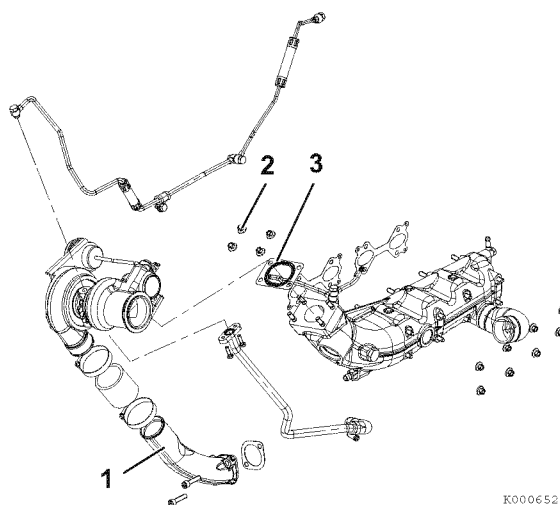

Figure 9-3
6. Disconnect charge air pipe (1, **Figure 9-3**) from turbocharger.
7. Remove four bolts (2, **Figure 9-3**) and remove turbocharger from exhaust manifold.
8. Remove gasket (3, **Figure 9-3**).